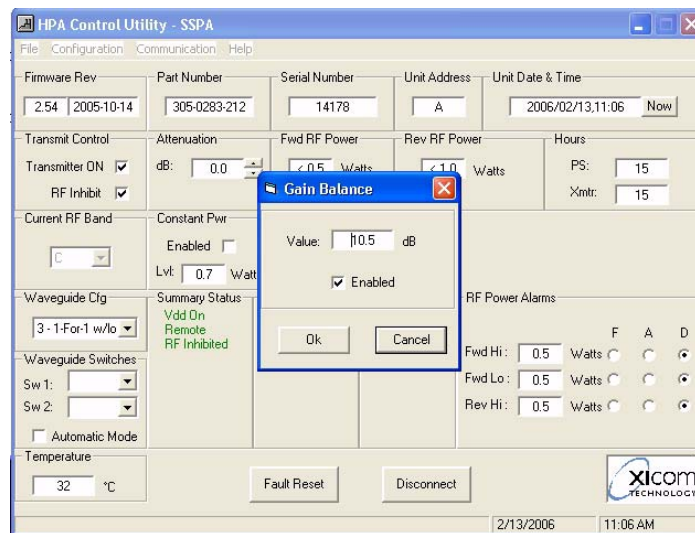

Figure 25, Gain Balance Menu
11. Refer to Figure 25. When two HPAs are configured for 1:1 Redundant operation, the Gain Balance Menu provides a means of adding attenuation to the amplifier that has the most gain of the two. When there is a failure of the online HPA, the output will be the same when the backup HPA is Switched online.